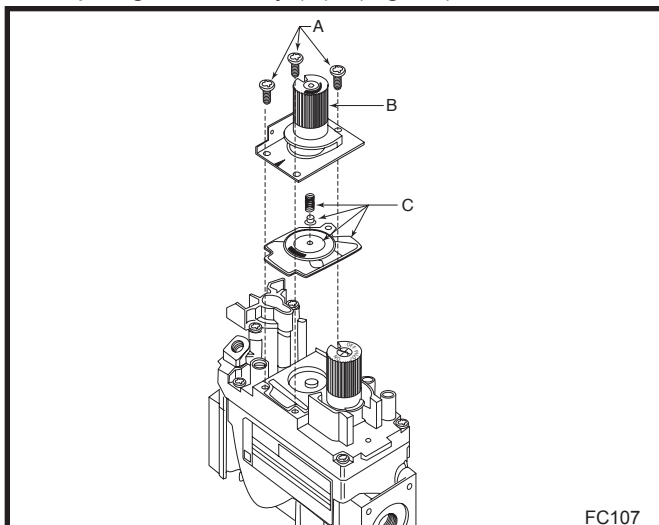

Fig. 22 Remove mounting screws, pressure regulator tower and spring and diaphragm assembly.
1. Using the TORX T20 bit, remove and discard the three (3) pressure regulator mounting screws (A), pressure regulator tower (B) and the spring and diaphragm assembly (C). (Fig. 22)